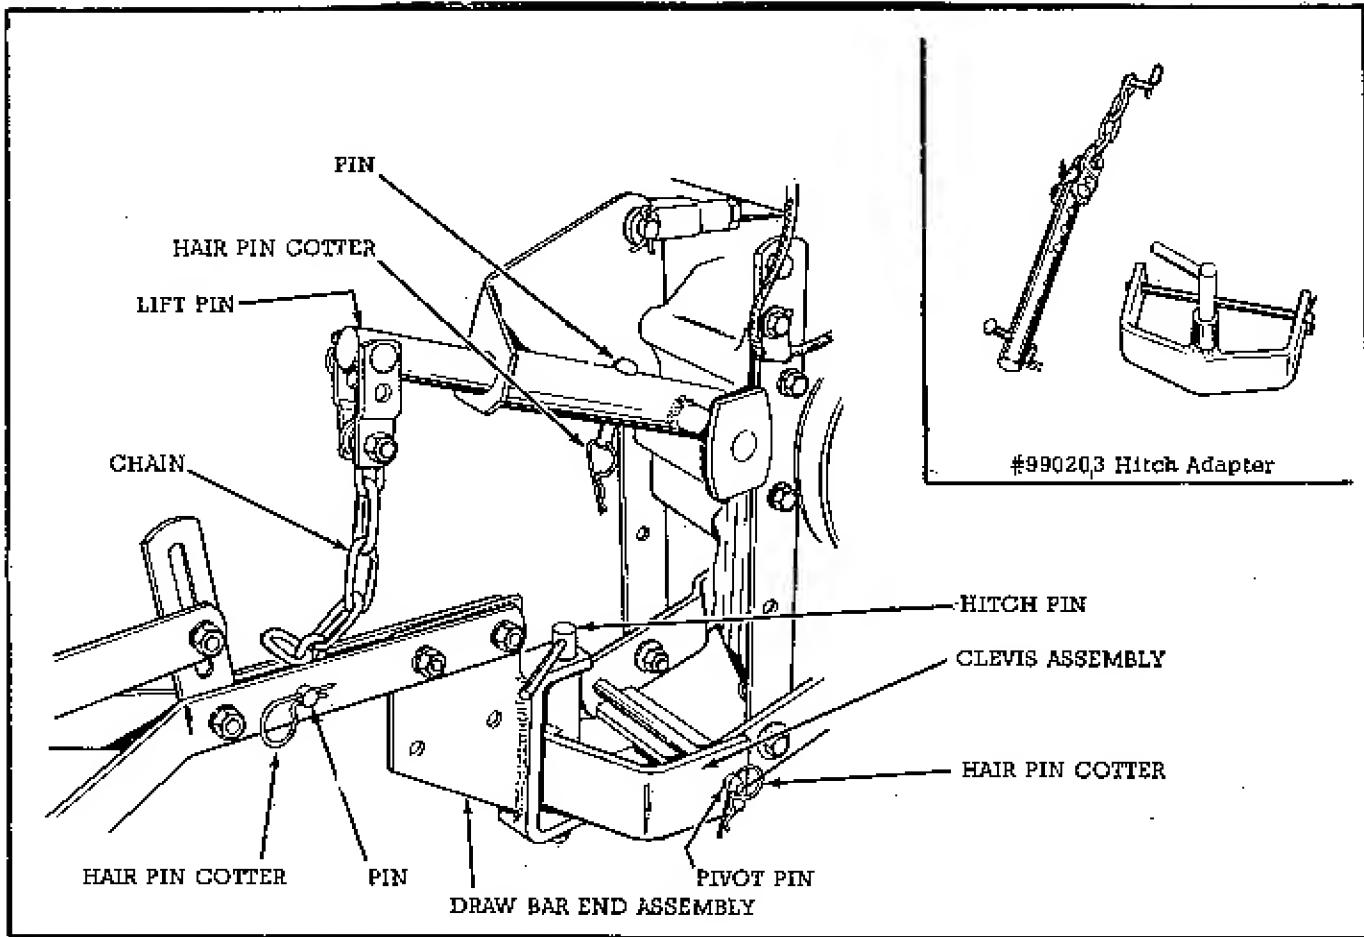

Fig. 2
3. The draw bar end assembly is fastened to the harrow draw bar by 2 carriage bolts through the upper set of holes in the draw bar end assembly, as shown in figure 2. Check to be sure that the upper set of holes are used when using the harrow on the Model 725.
To attach the disc harrow to the riding tractors, it will first be necessary to attach the clevis assembly to the tractor tow assembly, using the pivot pin and hair pin cotter. See figure 2. Mount the lift pin in place in the tube of the tractor lift and fasten with pin and hair pin cotter.
Position the disc harrow in back of the tractor and attach the draw bar end assembly to the clevis assy. by inserting the hitch pin. Connect the lift chain to the harrow at point shown in figure 2, using pin and hair pin cotter.